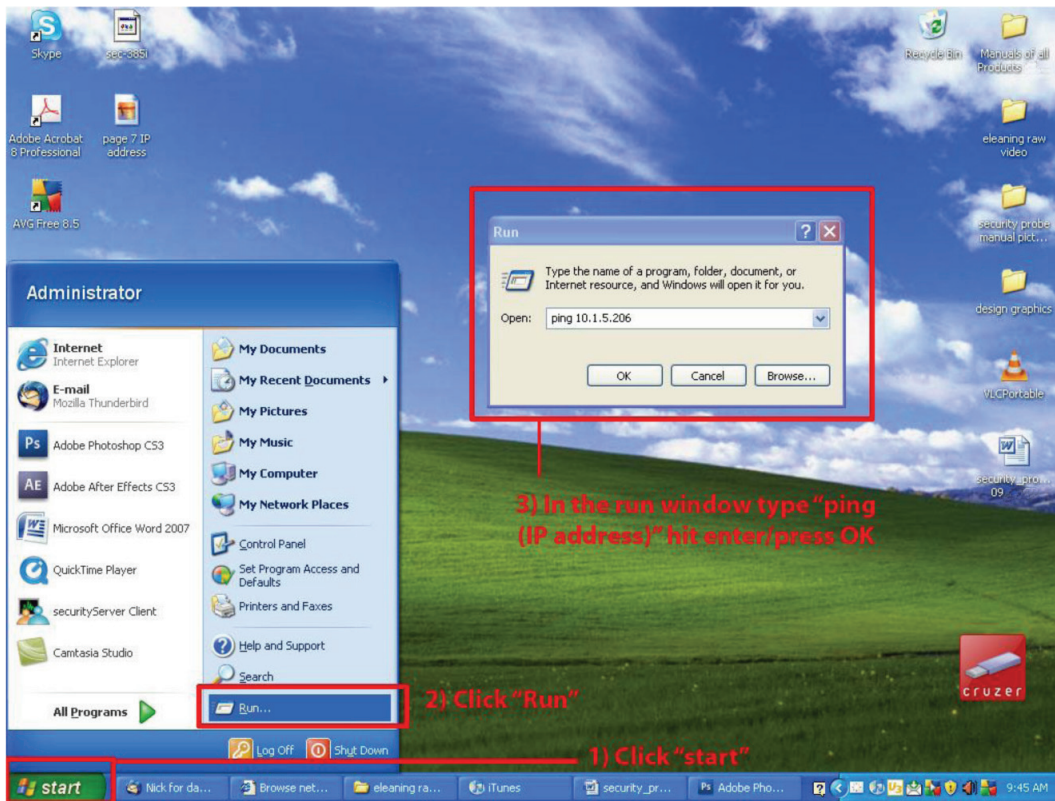

Figure 3-5. Ping Command screen.
Once you assign the new IP address, use the “ping” command to test the ServSensor V4E Lite. You can also use this command as a diagnostic tool to check whether your unit is connected to the network. See Figure 3-5.
3. Type “ping (IP address that the user entered),” and press Enter. An example IP address (10.1.5.206) is shown in Figure 3-5.